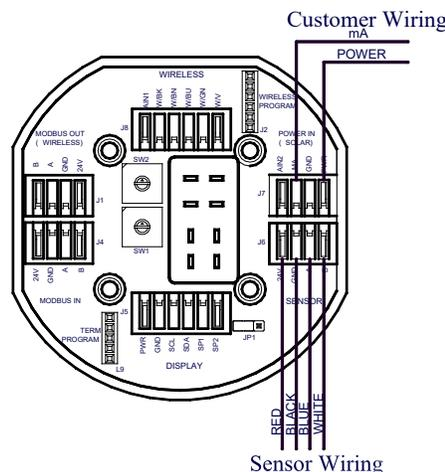
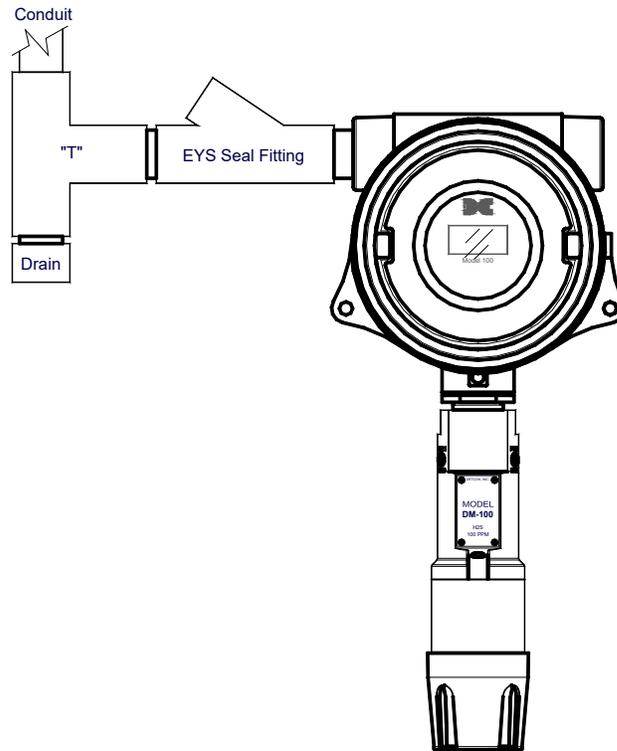

Figure 8 Model 100 Display Terminal Board
Figure 12 Typical Installation
If the unit is ordered with the optional display or a battery pack (wireless configurations) the unit comes with the DM-100 Display Terminal Board mounted in the J-Box (Figure 8).
In all installations the gas sensor should point straight down (Figure 12). Improper sensor orientation may result in false readings and permanent sensor damage.
Proper electrical installation of the gas sensor is critical for conformance to Electrical Codes and to avoid damage due to water leakage. Refer to Figure 8 and Figure 12 for proper electrical installation.
NOTE If a conduit run exits the secondary port, repeat the installation technique shown in Figure 12.
In Figure 12, the drain allows H₂O condensation inside the conduit run to safely drain away from the sensor assembly. The electrical seal fitting is required to meet the National Electrical Code per NEC Article 500-3d (or Canadian Electrical Code Handbook, Part 1, Section 18-154). Requirements for locations of electrical seals are covered under NEC Article 501-5. Electrical seals act as a secondary seal to prevent water from entering the wiring terminal enclosure. However, they are not designed to provide an absolute watertight seal, especially when used in the vertical orientation.
NOTE For products utilizing the aluminum junction box option, the conduit seal shall be placed at the entry to the junction box (see Figure 12 as an example). For products utilizing the stainless steel junction box option, the conduit seal shall be placed within 18" of the enclosure. Crouse Hinds type EYS2, EYD2 or equivalent are suitable for this purpose.
3. Observing correct polarity, terminate the 2-conductor power and 4-20mA field wiring (+ and mA) at the terminal board connector **J1** (4-20mA Out) on the Standard Terminal Board shown in Figure 7, or **J7** (PWR and MA) on the Display Terminal Board shown in Figure 8.